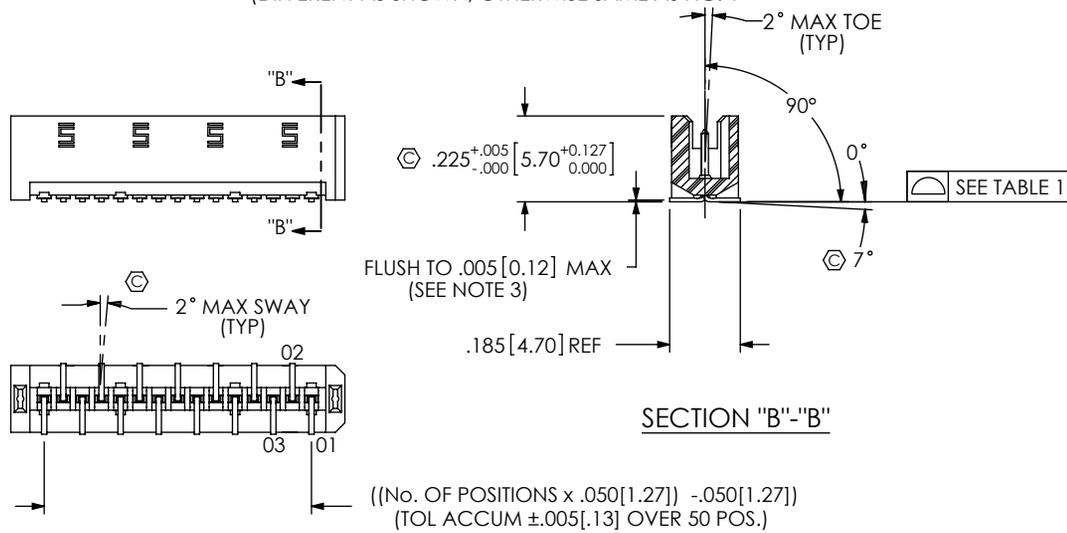

FIGURE 3
- K: POLYIMIDE FILM (SEE FIG. 3 SHEET 2) (USE K-500-300)